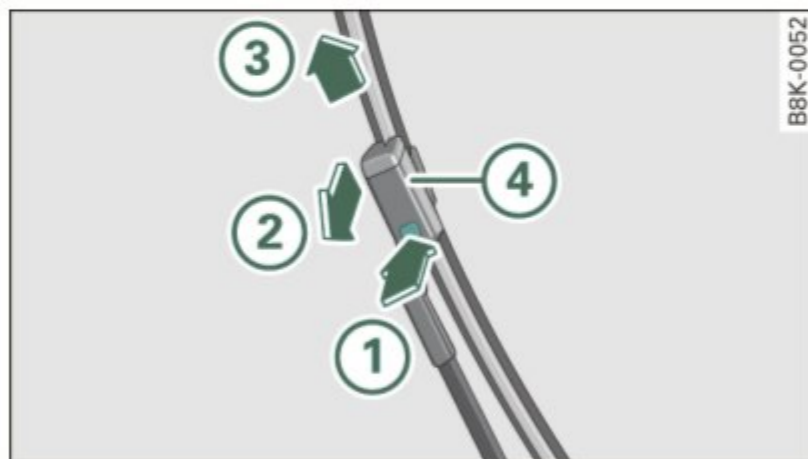

Fig. 70 Removing the wiper blade
- Press the lock button ① on the wiper blade ⇒ *fig. 70*. Hold the wiper blade and slightly push it forward ②.
- Push the wiper blade up ③.